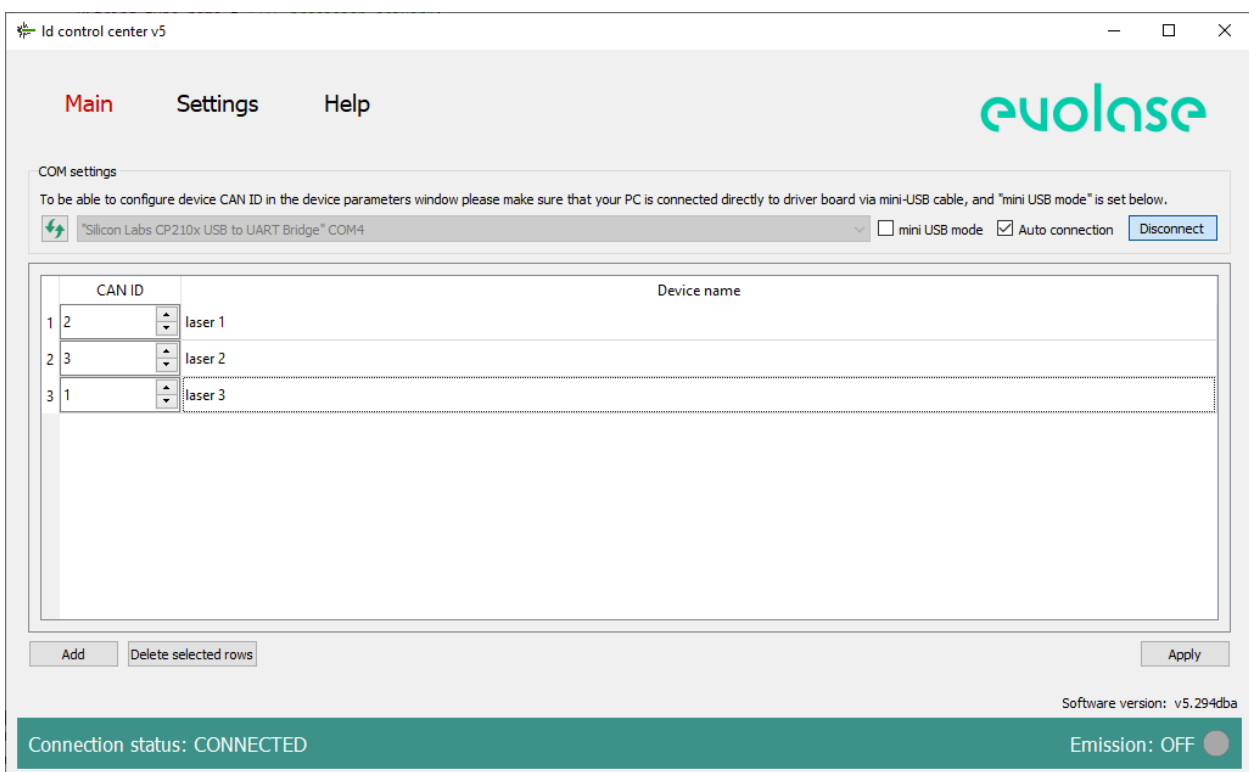

Figure 4: The system configuration menu
3. Click “Settings” to enter the program configuration menu (fig 4.).